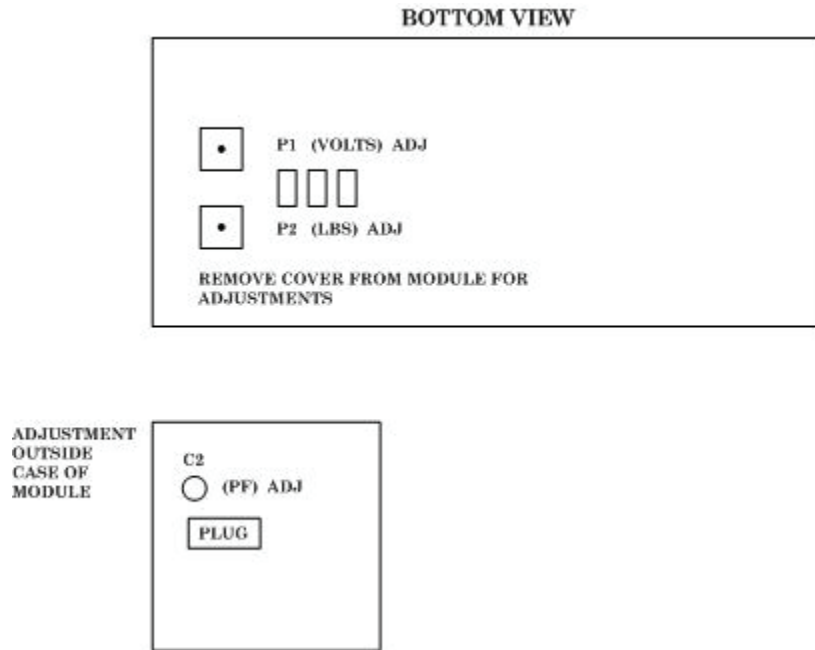

Figure 6. Adapter module monitor (LBS), (VOLTS) and (PF) adjustments.
- (1) Remove TI adapter module case for access to P2 adjustment.
- (2) Adjust P2 on adapter module printed circuit board, (fig. 6), for a display of 1534 lbs on TI digital indicator.
(1) Remove TI adapter module case for access to P1 adjustment if not previously removed in paragraph **13 b**.
(2) Adjust P1 on adapter module printed circuit board (fig. 6) for a display of 19.90 Vdc on digital indicator.
- (3) TI digital indicator will indicate value of capacitor standard/adapter box within  $\pm 0.3\text{pf}$ . If not, perform **b** below.
- (4) Set **200(pF)-1000(pF)** switch to **1000(pF)**.
- (5) Depress and hold **PRESS TO READ CAP(pF)** pushbutton.
- (6) TI digital indicator will indicate value of capacitor standard/adapter box within  $\pm 2.0\text{pf}$ .
- (7) Set TI power switch to **OFF**.
- (8) Disconnect capacitor standard/adapter box leads from TI bench test probe receptacle.
- b. Adjustments.** Adjust capacitor C2 on adapter module circuit board, (fig. 6), for (pf) value of capacitor standard/adapter box on TI digital indicator.